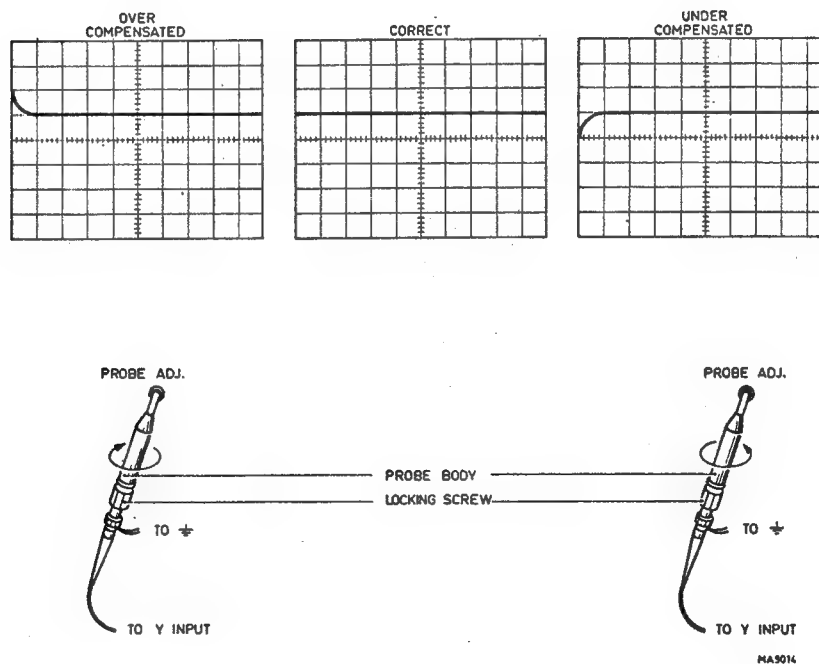

Fig. 3.19. Attenuator probe compensation
3.5.1.2 Adjustment (Fig. 3.19.)